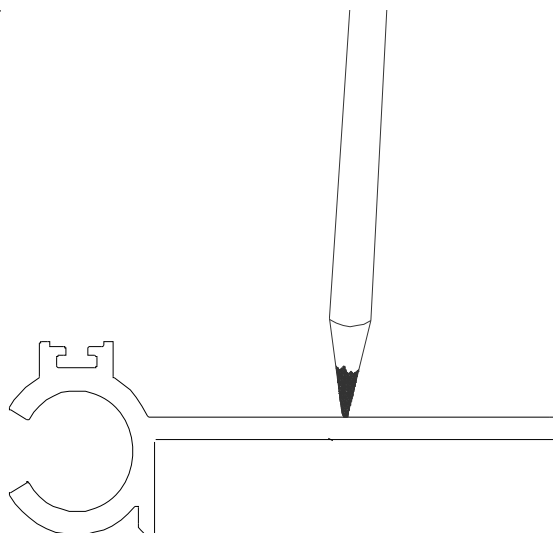

Figure 3
**STEP 2.** Select the base members. If the anchor holes have not been predrilled in the base members at the factory, mark the locations for the anchor holes on the base members (see Figure 3). Standard anchor spacing is 20" O.C. with an anchor at a nominal 3" from each end of the base member. Drill the holes into the base members at the marked locations.